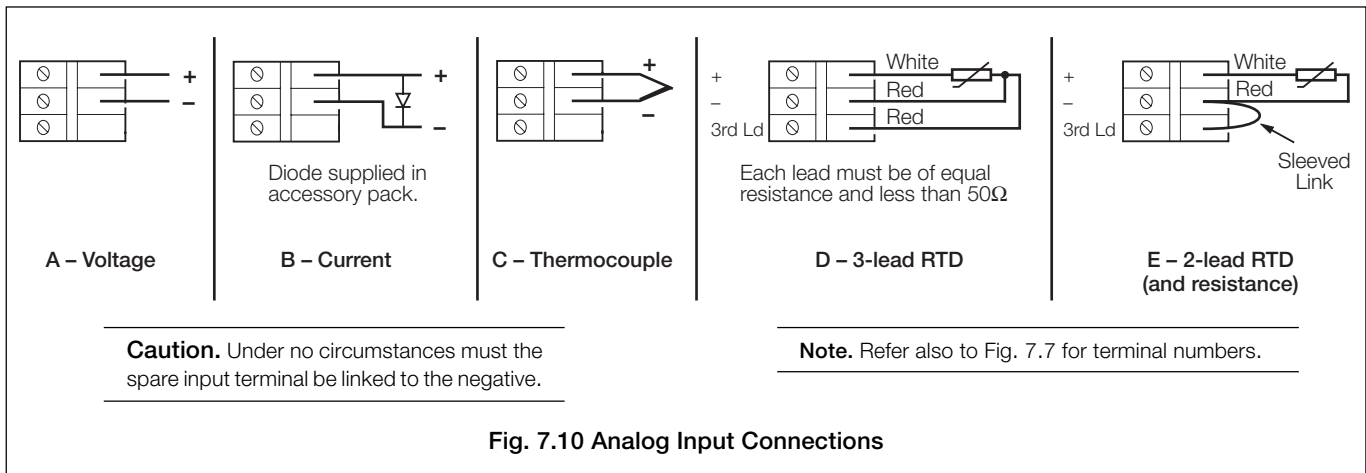

Fig. 7.10 Analog Input Connections
7.5.3 Current and Voltage – Fig. 7.10
7.5.5 Resistance Thermometer (RTD) – Fig. 7.10
7.5.4 Thermocouple – Fig. 7.10